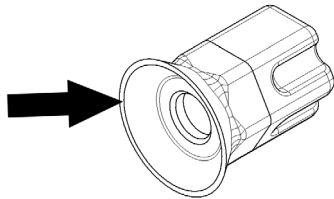

figure 20
- 2 Every month:** check that the hexagonal joint gasket is not worn. If it is, replace the joint itself with an original spare part from the manufacturer (see figure 20).